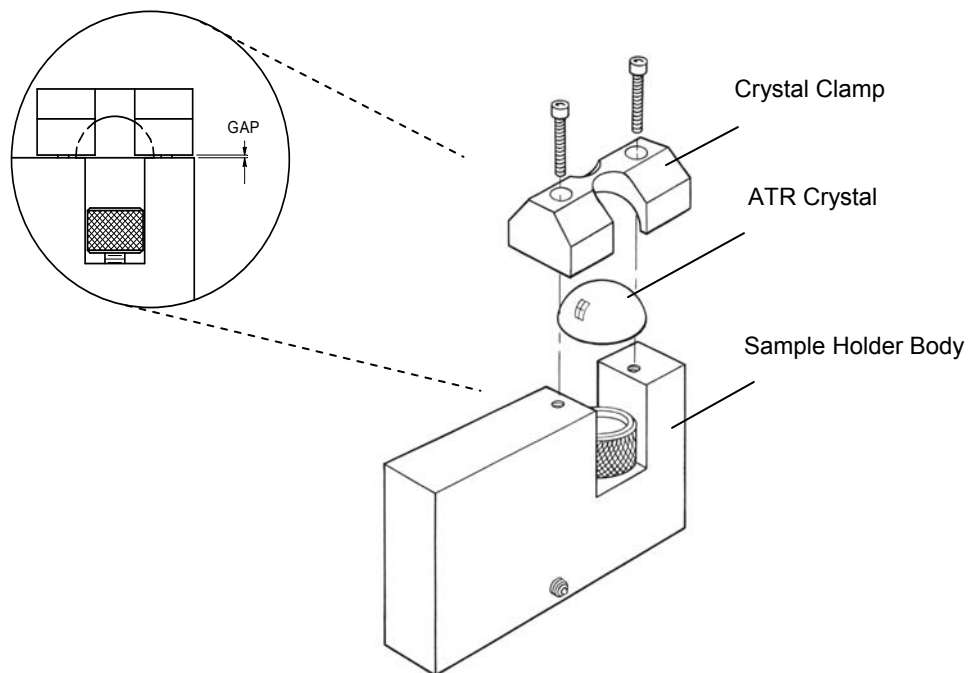

Figure 12 • Mounting the ATR Crystal
Mount the ATR crystal into the ATR sample holder (Figure 12):
- Carefully place the crystal on the ATR sample holder body as shown in Figure 12.
- Carefully replace the crystal clamp and tighten the screws evenly so the crystal clamp is seated with equal gaps on both ends (See detail in Figure 12).